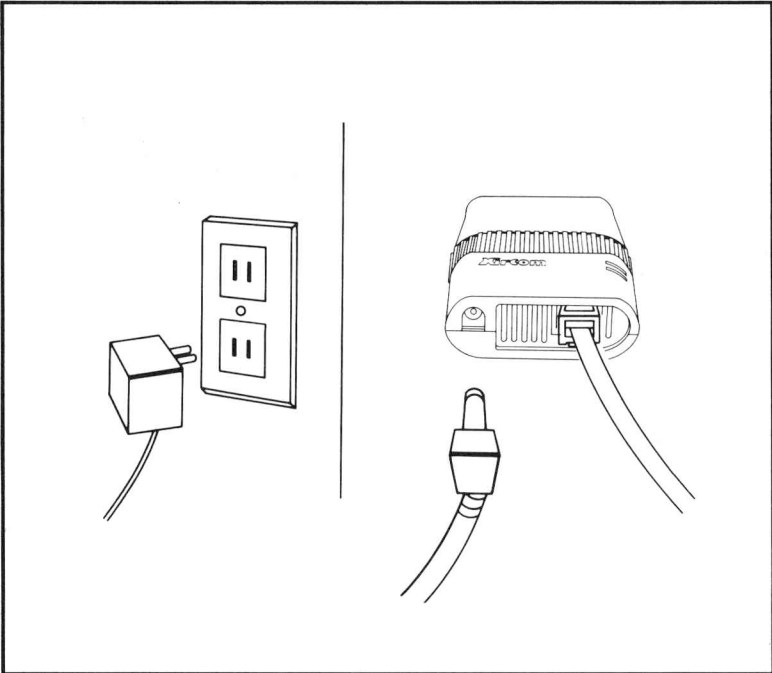

Figure 7. Plugging in the AC Power Adapter
1. Plug the AC power adapter into any standard electrical outlet as shown in Figure 7.
2. Plug the AC power adapter cable into the small round socket on the Pocket Ethernet Adapter II to the left of the network connector. See Figure 7.